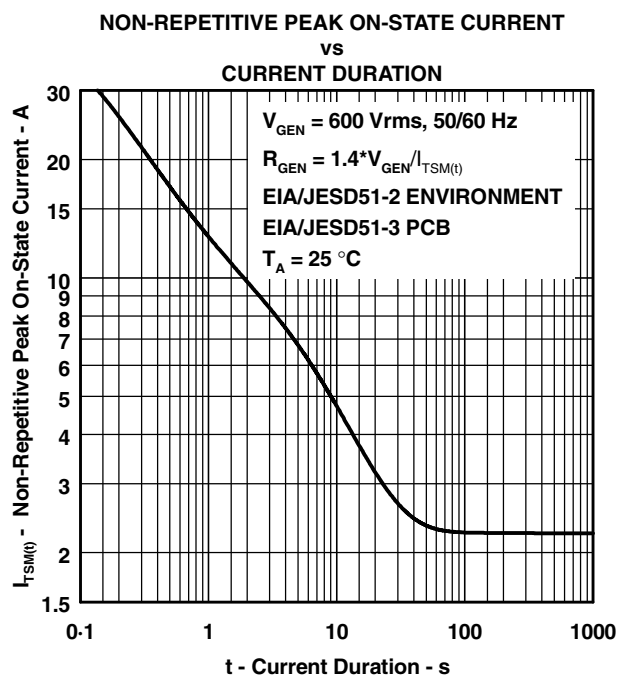

Figure 8.
5. EIA/JESD51-2 environment and EIA/JESD51-3 PCB with standard footprint dimensions connected with 5 A rated printed wiring track widths. See Figure 8 for the current ratings at other durations. Derate current values at  $-0.61\% / ^\circ\text{C}$  for ambient temperatures above  $25^\circ\text{C}$ .
The protector can withstand currents applied for times not exceeding those shown in Figure 8. Currents that exceed these times must be terminated or reduced to avoid protector failure. Fuses, PTC (Positive Temperature Coefficient) resistors and fusible resistors are overcurrent protection devices which can be used to reduce the current flow. Protective fuses may range from a few hundred milliamperes to one ampere. In some cases, it may be necessary to add some extra series resistance to prevent the fuse opening during impulse testing. The current versus time characteristic of the overcurrent protector must be below the line shown in Figure 8. In some cases, there may be a further time limit imposed by the test standard (e.g. UL 1459 wiring simulator failure).